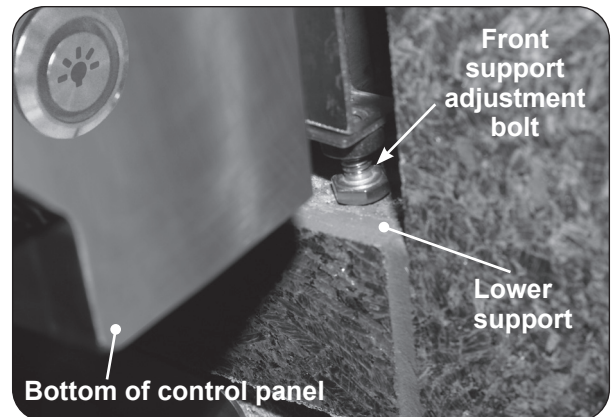

Fig. 29-3 Front support adjustment bolts
4. Rotate the front support adjustment bolts (up or down) until the griddle hanger rests flush on the countertop, **AND**, the adjustment bolts are touching the supporting structure found at the bottom of the cutout (lower support). Use a 7/16" open-end wrench as needed. See Fig. 29-3.